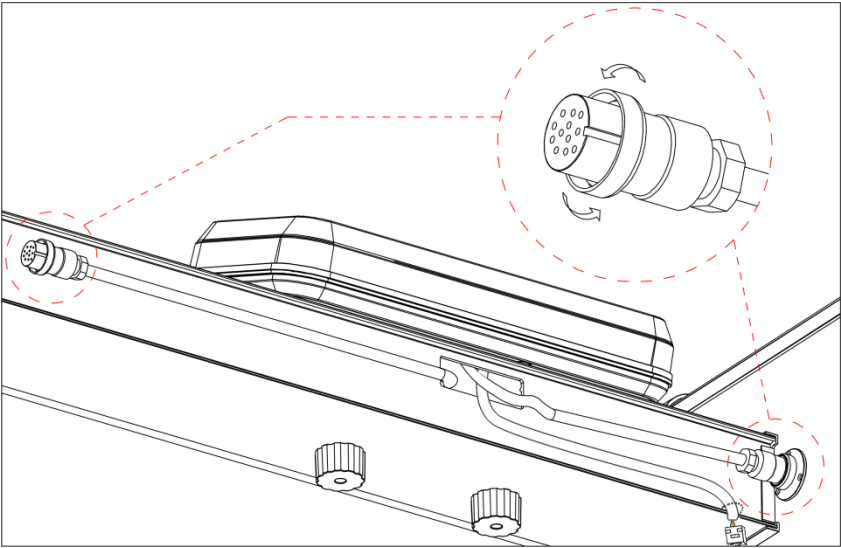

Figure 3-9
Step 8: Insert and tighten the left and right signal wire plugs, as shown in the figure 3-9 below (pay attention to distinguish the left and right signal wires).